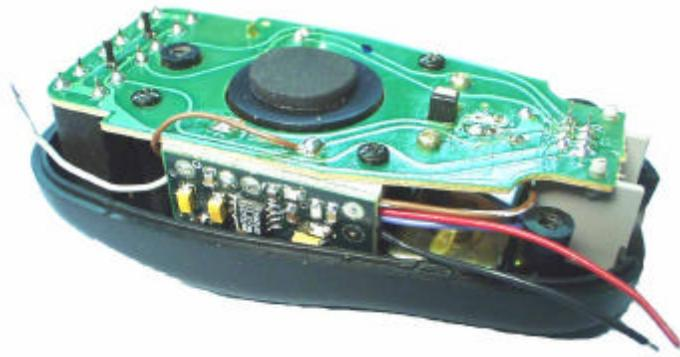

Figure 11.
- 11. Now carefully press the One BIG Punch unit against the microphone element and the screw post as shown in Fig. 11. (In a few cases, you may have to loosen the three screws holding the PCB in place to properly fit the OBP. Retighten screw once the OBP is placed. **Take care not to pinch the wires between the PC Boards.**) Now, place the four ferrite-beads on the red wire as shown in Fig. 11.